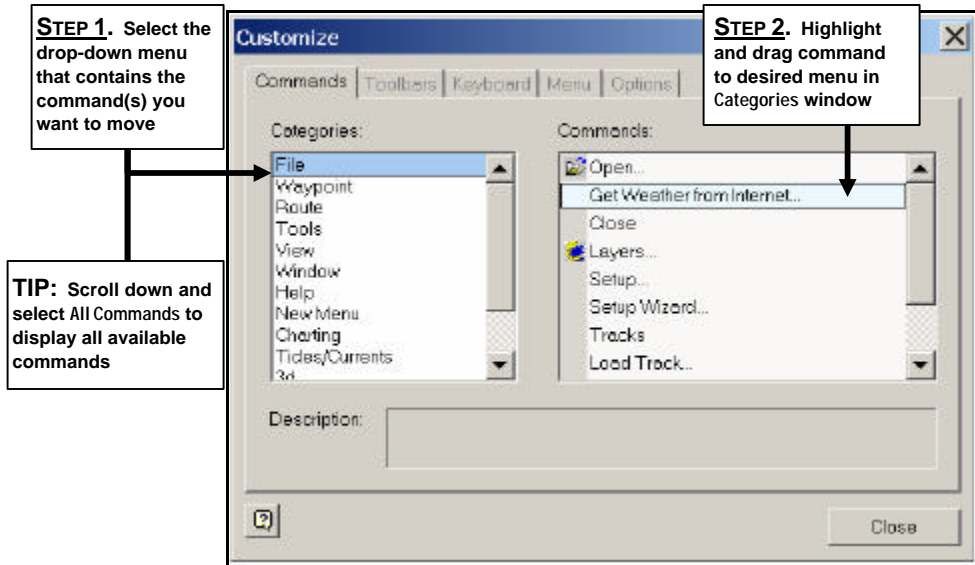

Figure 3-45. Customize Dialog Box Commands Tab
This subsection illustrates the Customize dialog box and also shows and explains how to use its various tabs (Figures 3-45 through 3-49). Each tab displays a different set of options and parameters, enabling you to alter the appearance and behavior of many parts of Navigator's interface to better suit your needs.
1. From the View menu (or right-click near the Toolbar display area), select **Customize** to display the Customize dialog box (Figure 3-45).